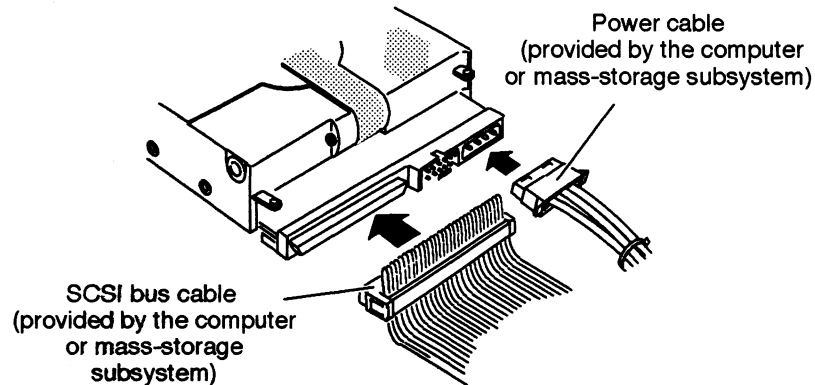

Figure 12 Connecting the SCSI bus cable and power cable to the back of the Model 61005-W, 61006-W, or 61007-W disk drive
15. If you are installing a Model 61005-W, 61006-W, or 61007-W disk drive, connect the SCSI bus cable provided by the computer or mass-storage subsystem into the SCSI bus connector on the back of the disk drive (Figure 12).
- ▶ If you are installing a drive model with a -W suffix, refer to Figure 12.